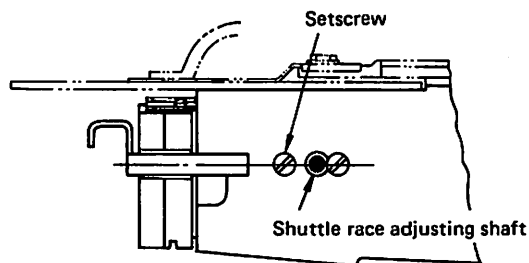

Fig. 16
B. Correct the clearance between the needle and the shuttle. Set the shuttle race free by loosening the setscrew. Reduce the clearance to 0.05 to 0.1 mm by turning the shuttle race adjusting shaft. Take care not to make the clearance smaller than stipulated, or the two may touch, which would cause wear. (Fig. 16)